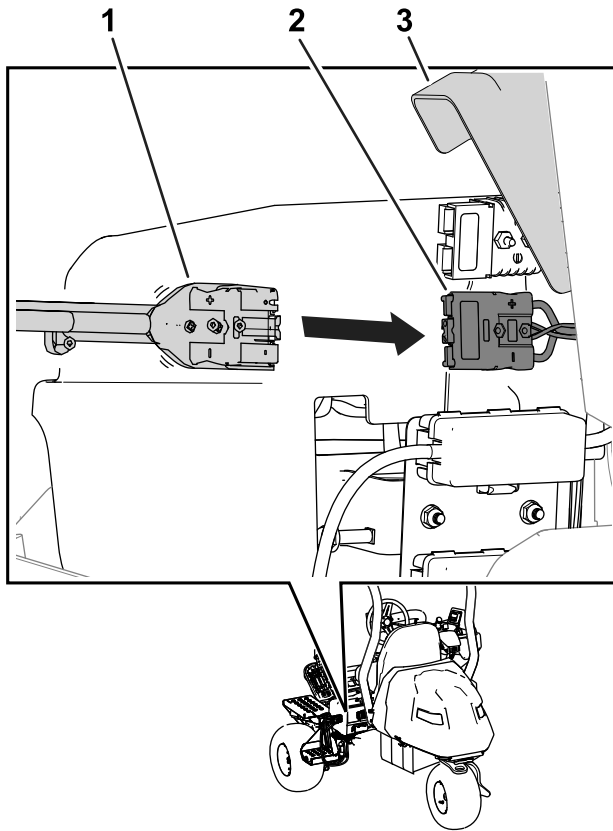

Figure 41
7. Raise the connector cover and slide the charger-output connector into the charger connector on the machine (Figure 41).